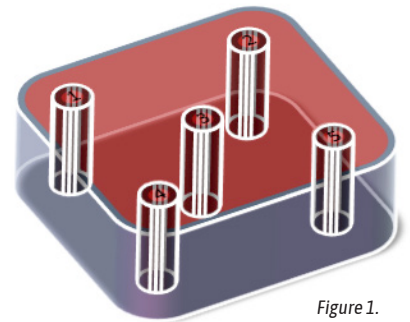

Figure 1.
- Establish a testing pattern (Figure 1)